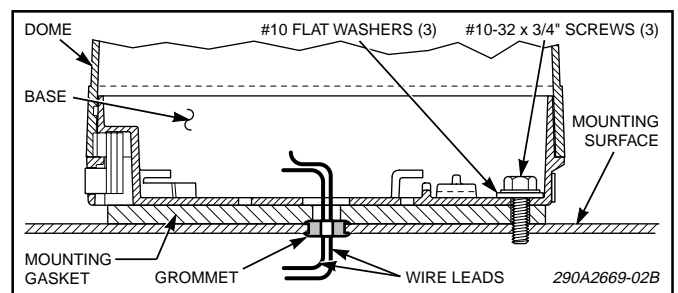

Figure 2.
11. See figure 2. Secure the base to the mounting surface with the three thread-forming screws and flat washers.